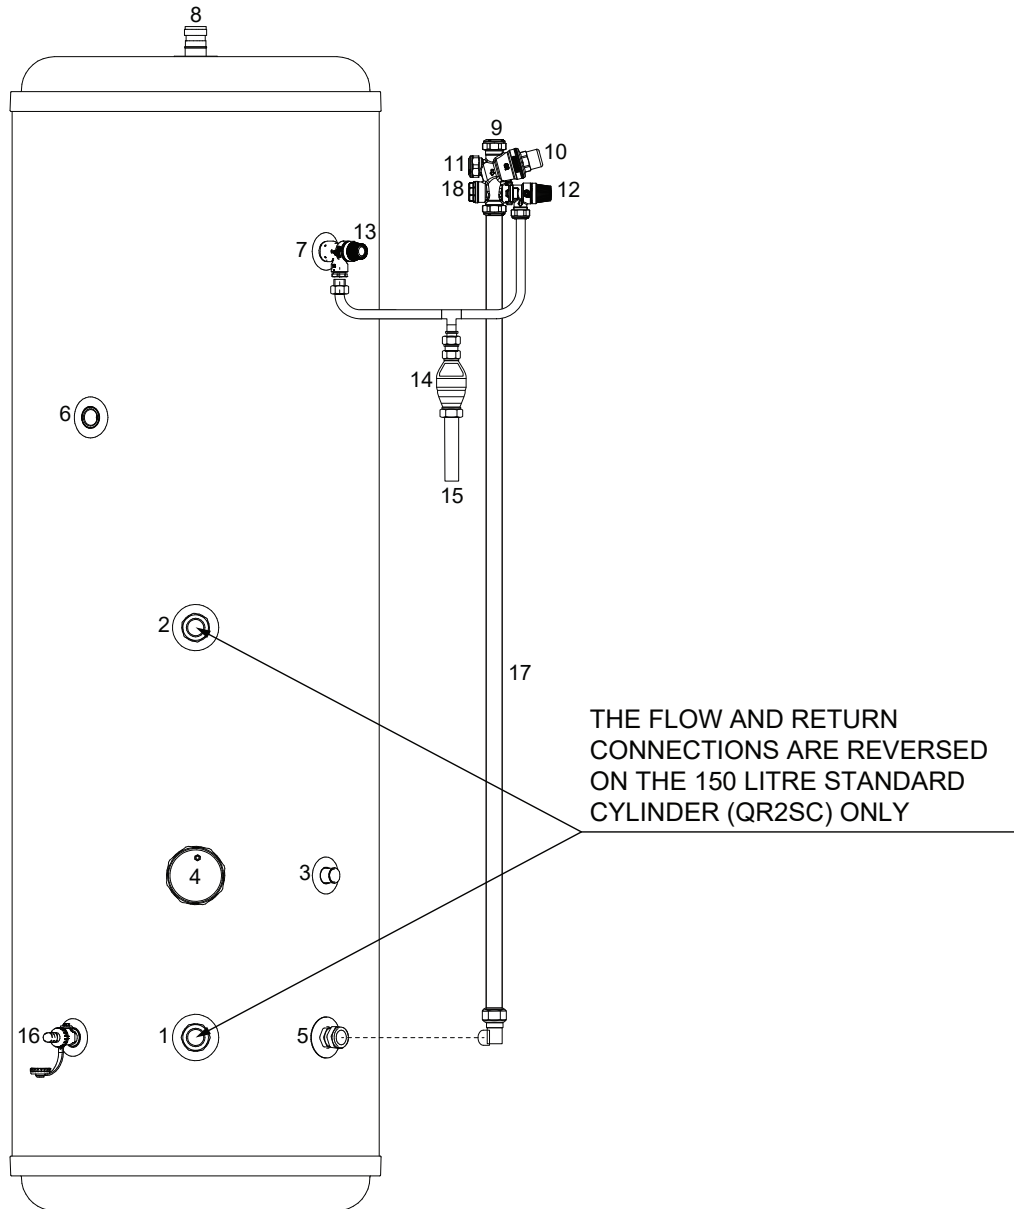

Figure 2-3: Grant QR2SC & QR2SCSL cylinders
Table 2-10: Grant QR2 indirect Heat Pump cylinder connections and controls (key to Figures 2-3)
2. Locate the dual thermostat probes in the stainless steel stat pocket (refer to Figure 2-3, for location) and secure using the retaining screws on the thermostat housing.
The 1/2" drain cock is factory fitted in the cold feed to the cylinder to provide a means of draining the unit. Refer to Figures 2-3 for a suitable drain cock position that will enable most of the cylinder to be drained off when required.